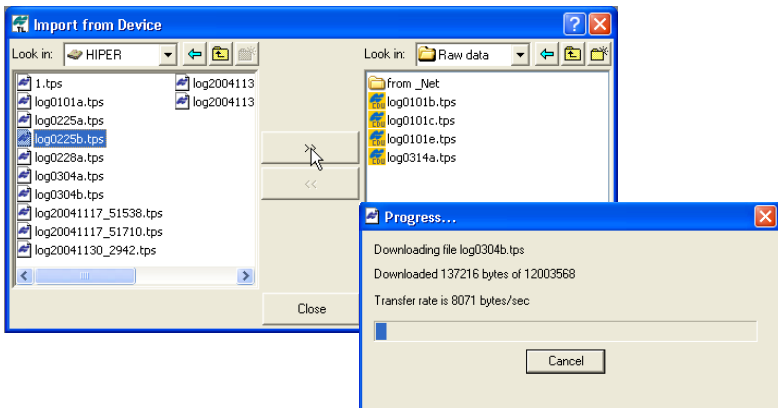

Figure 5-8. Select the Raw Data File to Import and View Import Progress
5. In the right panel of the *Import From Device* window, navigate to and select, or create, a folder to save the files (Figure 5-8).
6. To view the collected raw file, double click (or click *Select* in the pop-up menu) the receiver. To import the file(s) from the receiver to the computer and to save in the selected folder, highlight the file(s) and click the double arrows (Figure 5-8).
7. The import in progress displays (Figure 5-8).